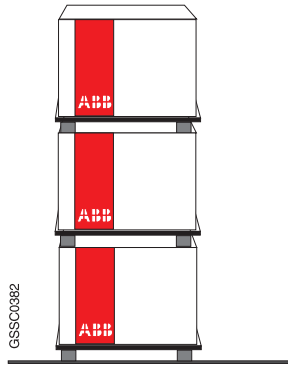

Figure 6.
- The maximum number of stackable circuit-breakers is indicated in Figure 6.